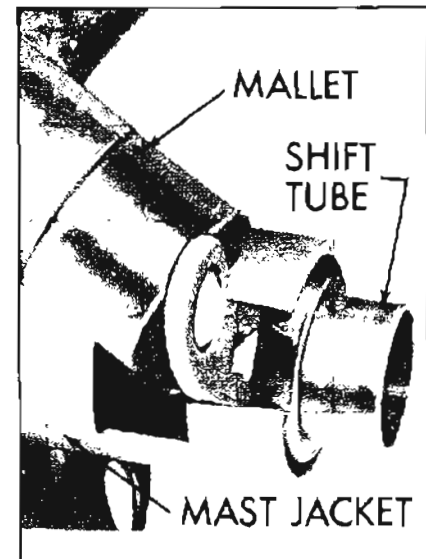

Figure 8-87—Removing Shift Tube
5. Remove the shift tube and felt seal downward through column by tapping lightly with a mallet on shift lever. See Figure 8-87.